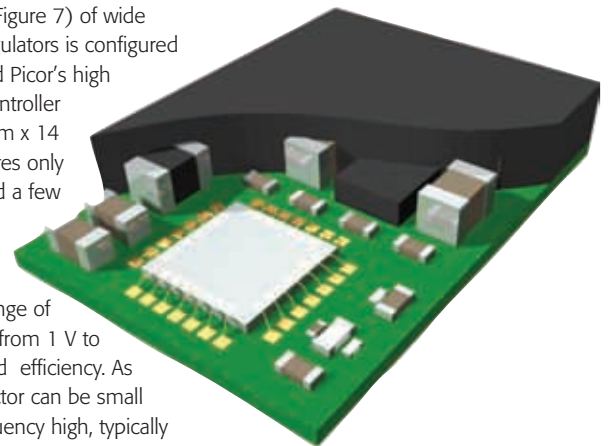

Figure 7: Construction of the PI33XX family of DC/DC converters
Figure 6 shows the theoretical EMI signature of a two-stage topology converter (Si switching devices) with a DCM boost PFC first stage, while Figure 7 shows the same EMI measurement of a single-stage topology converter (SiC switching devices) using the same EMI filter components.
**Figure 7: An EMI filter design for a single-stage high-frequency converter showing Class B conducted EMI limit, theoretical EMI signature of the unfiltered supply (Supply), EMI filter attenuation (Filter Attn), and EMI signature of the filtered supply (Filtered Supply)**
The PI33XX family (Figure 7) of wide input range DC/DC regulators is configured using ZVS topology and Picor's high performance Silicon controller architecture. The 10 mm x 14 mm SiP package requires only the output inductor and a few ceramic capacitors to form a complete buck converter. The family supports wide input range of 8 V – 36 V, to outputs from 1 V to 15 V, at high power and efficiency. As noted above, the inductor can be small and the switching frequency high, typically allowing 120 W to be output from 25 mm x 21.5 mm PCB area with 98 % peak efficiency.